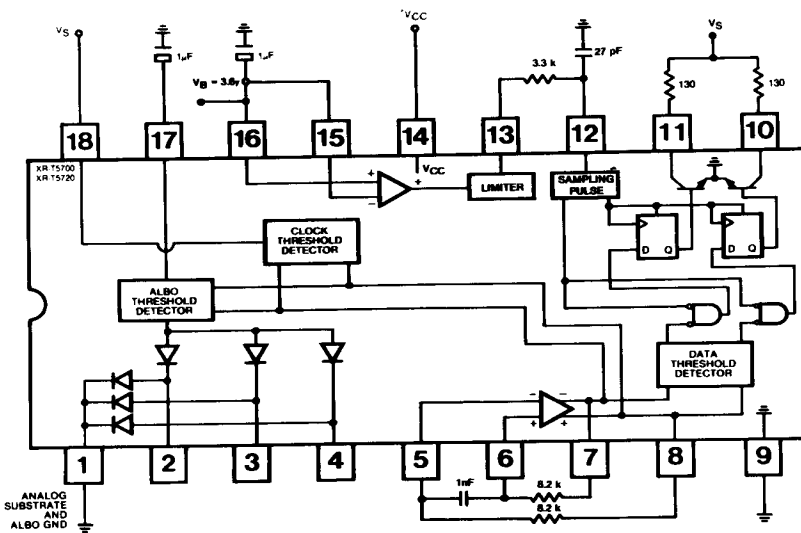

Figure 2. DC Parameter Test Circuit
| CLOCK AMPLIFIER (Ref. Figure 2 Disconnect Pin 15 from Pin 16) |                                     |         |     |  |    |               |   |
| ALBO (Ref. Figure 2) |                         |      |     |     |     |            |                        |
2. At 1 MHz, use Figure 2.
### ALBO (Ref. Figure 2)